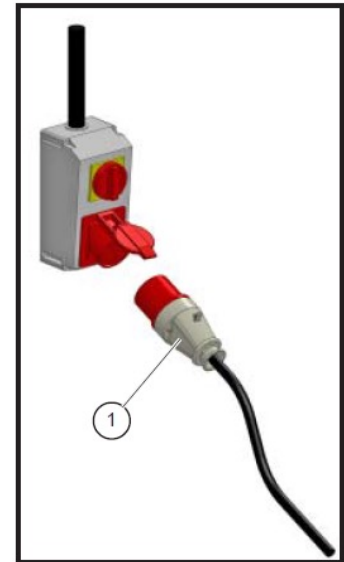

Fig. 1-12
- All the cleaning and maintenance works are to be effected with the machine at stop and the power off except where otherwise indicated; the plug should therefore disconnected (1 fig. 1-12) and completely removed away from the socket.
Machine not working with plug removed from socket (1 fig. 1-12).
Machine at stop and disconnected electric plug (1 fig. 1-12).